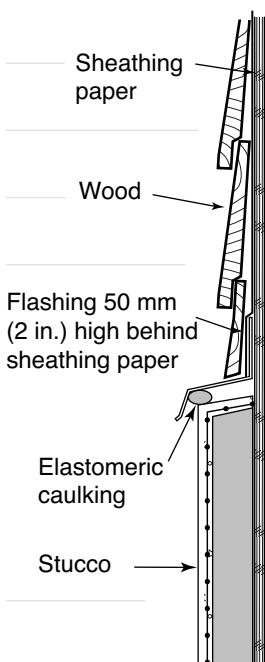

FIGURE 52
- ◆ Sheathing paper must overlap any installed flashing. The flashing should extend up the wall a minimum of 50 mm (2 in.) beneath the building paper. Flashings should overlap the sheathing paper below. Do not seal the space above the flashing, as it is designed to shed any water running behind the stucco (see Figure 52).